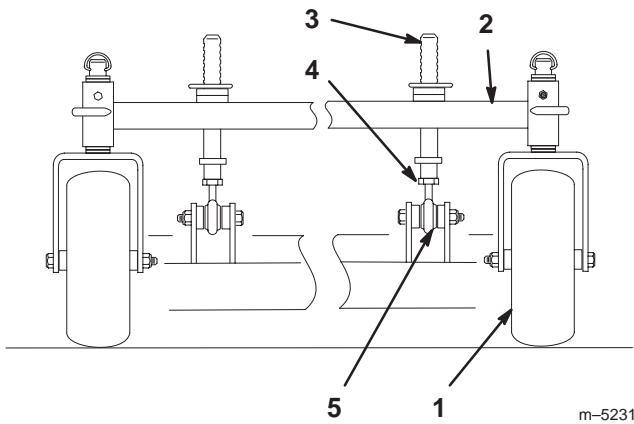

Figure 52
1. To change the front-to-rear pitch, the front height-of-cut posts can be adjusted (Fig. 52).
2. To raise the front of the deck, loosen jam nut and rotate the front pin clockwise (Fig. 52).
3. To lower the front of the deck, loosen jam nut and rotate the front pin counter clockwise (Fig. 52).